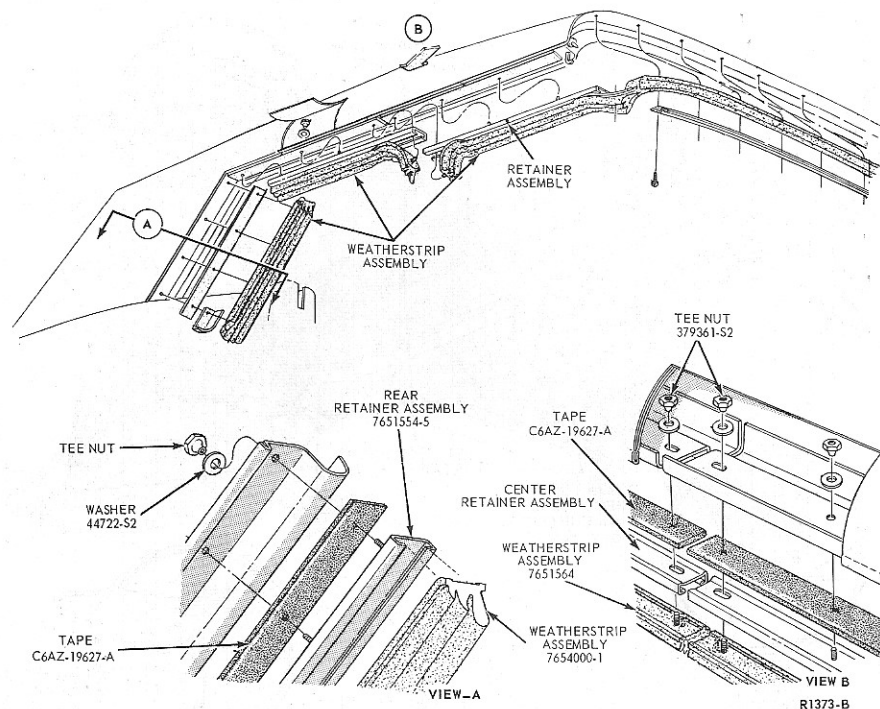

FIG. 13—Convertible Top Weatherstrip—Montego, Fairlane
2. If removing the center weatherstrip, remove the three retaining tee nuts and separate the retainer from the side rail. This is not necessary on the rear side rail (Fig. 13).
2. To install the center side rail weatherstrip, position the weatherstrip in the retainer and position the retainer to the side rail and install the three retaining nuts (Fig. 13).